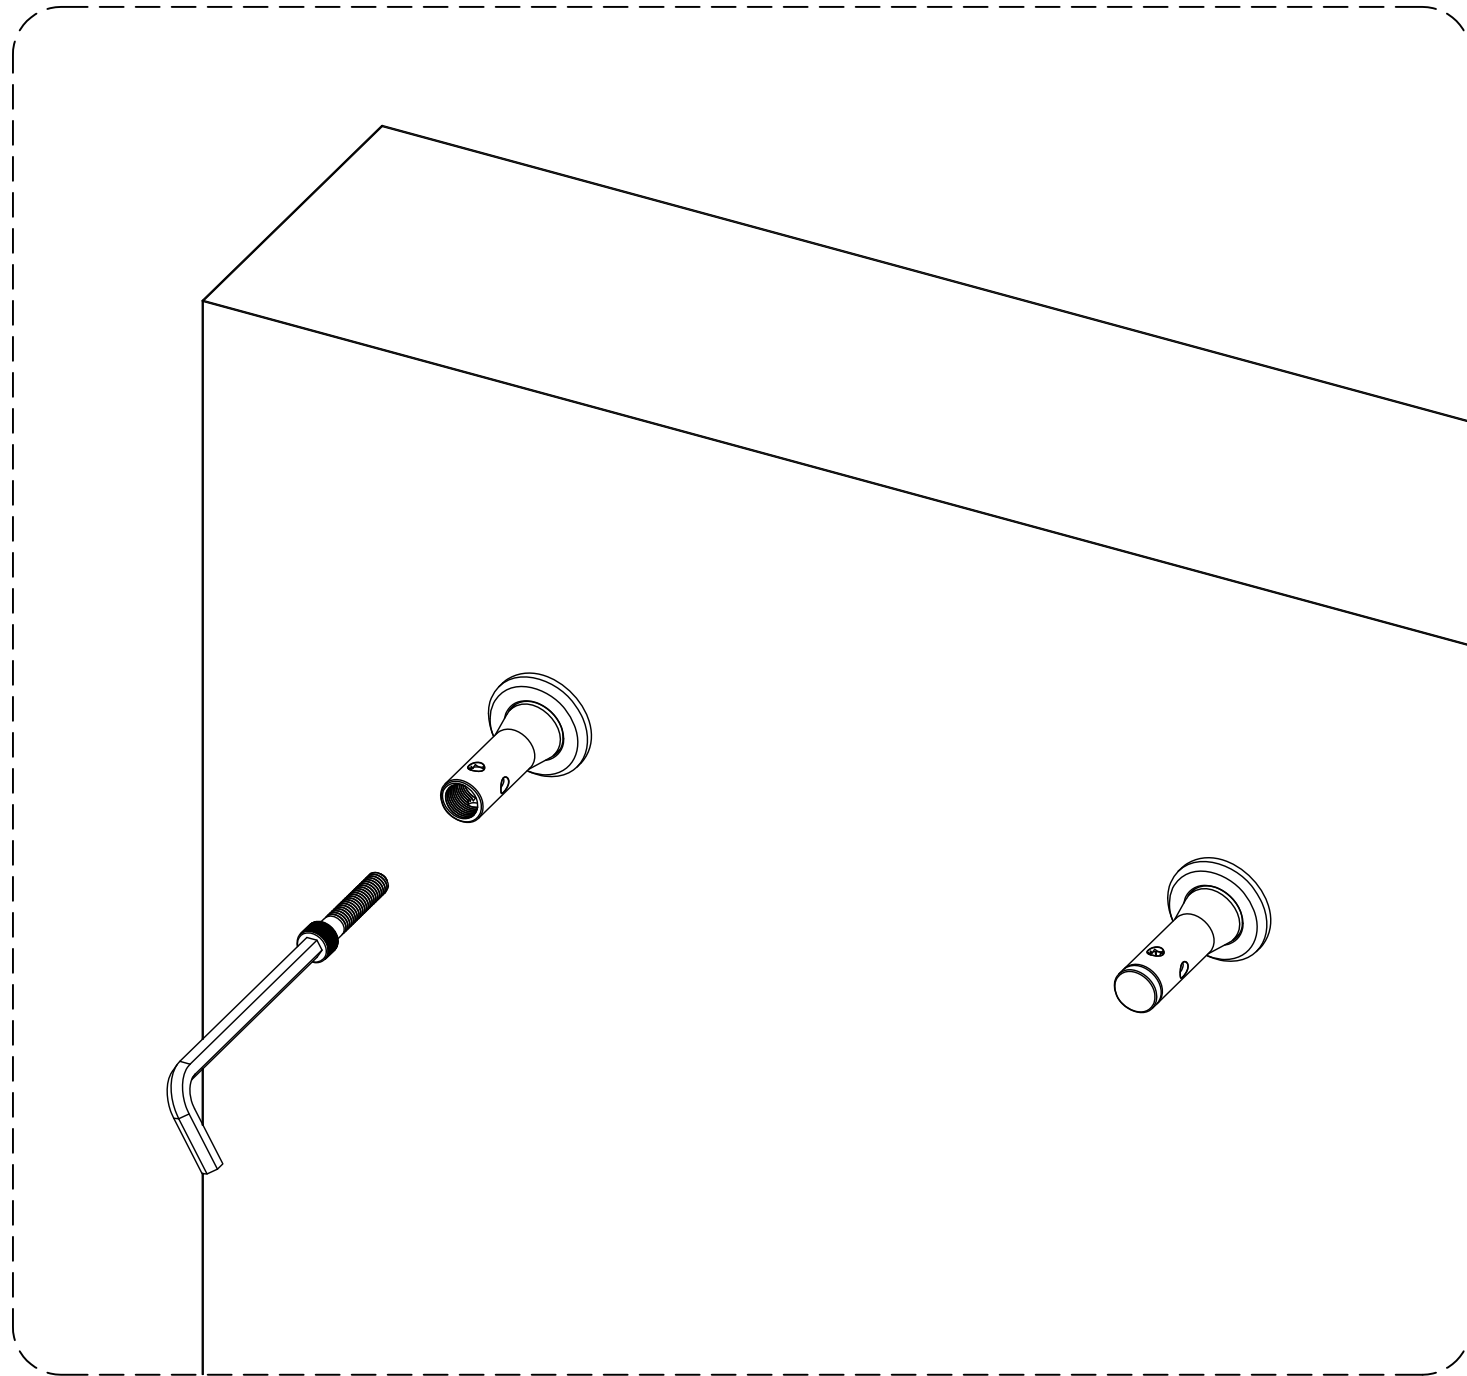

**FIG. 2.**
**#1 (FIG.2) AFTER CLEANING OUT ANY DEBRIS FROM**